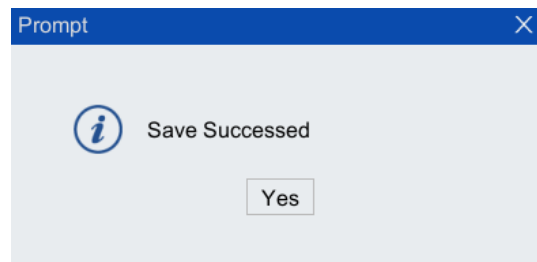

Figure 5-68 "Save Succeeded " dialog box
Step3.Click <Save> button below to pop up "Save Succeeded" dialog box in Figure 5-68, and then the setting will be completed.